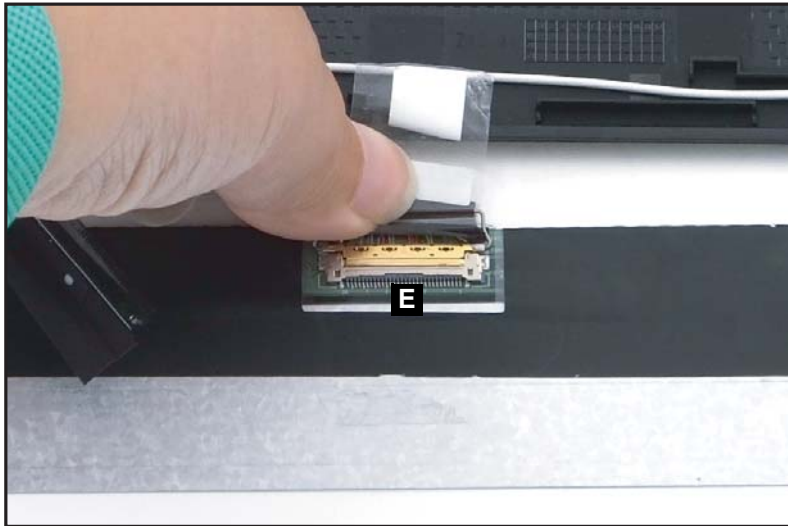

Figure 1-54. LCD Panel Removal
4. Disconnect the eDP cable from the LCD panel connector (E) (Figure 1-54).